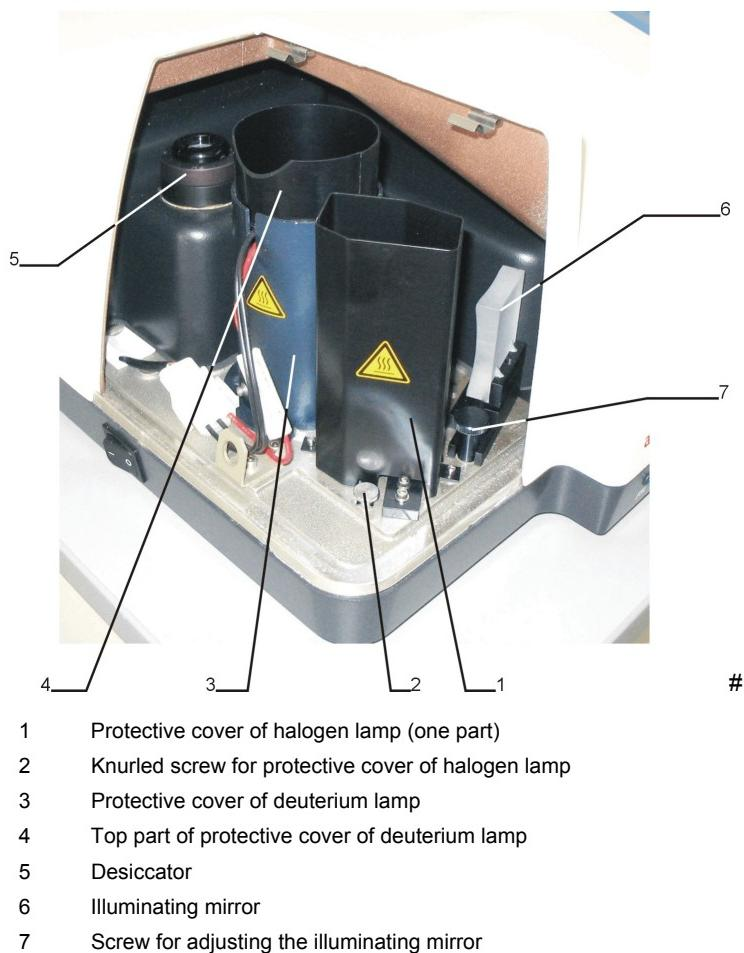

Fig. 8-3 Lamp compartment of SPECORD® 200 / 205 / 210, opened
After you have removed the flap of the lamp compartment, the lamps are visible in their protective covers (Fig. 8-2 and Fig. 8-3).
4. Remove the new deuterium lamp from its packaging and insert it in the lamp holder taking care that the locating pin of the lamp holder fits into groove (2) of the lamp base.
5. Screw down the deuterium lamp by means of both knurled screws (1). Reconnect the lamp connector (4).
6. Finally, reattach the top part of the protective cover of the lamp acc. to Fig. 8-2 or Fig. 8-3.
Despite stringent manufacturing tolerances of the deuterium lamps, it may be necessary to realign the lamp after lamp change to ensure that maximum intensity of the lamp is incident on the entrance slit of the monochromator. For this purpose, you can slightly move the illuminating mirror by means of setscrew (Fig. 8-3, 7).